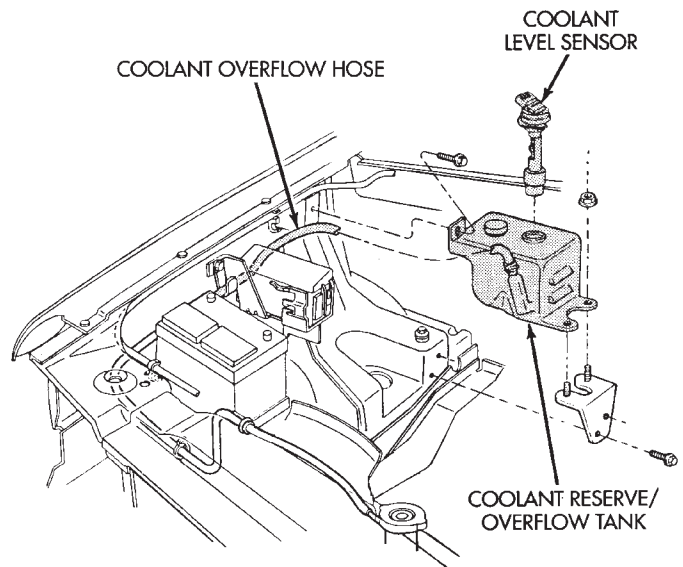

Fig. 12 Coolant Reserve/Overflow Bottle Mounting
- (1) Disconnect the negative battery cable at the battery.
- (2) Remove the coolant reserve/overflow bottle (one bolt and two nuts) (Fig. 12)